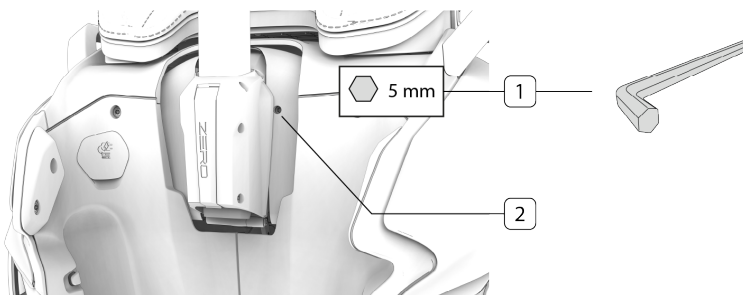

Figure 5.20 - Emergency steering unlocking
1. Loosen the unlocking screw on the front of the bodywork (refer to Chapter Figure 5.20 - Emergency steering unlocking) with the Allen key delivered with GENNY